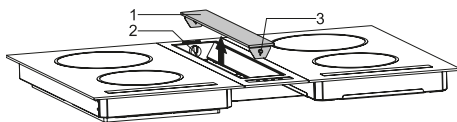

Fig. 9
1. → Pull and open the glass cover on the product towards the direction of the arrow (Fig. 9).
1. ➔ Remove the glass cover on the product (Fig. 9).